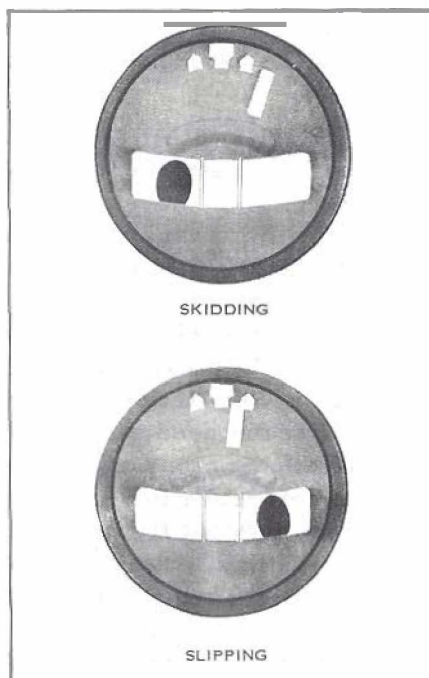

Figure 2: Unco-ordinated Turns
(3) It is possible to go into a turn by using rudder pressure alone, but rather than executing a properly co-ordinated turn, the aircraft skids in the horizontal plane. Similarly, owing to aileron drag, the use of aileron alone causes the aircraft to slip. This means that the ball must be included in your cross-check throughout any turn. Figure 2 opposite shows what happens to the needle and ball when the controls are mishandled in a turn.
(5) The roll-out is done in the same way as for a normal recovery. Any small corrections that have to be made must NEVER have a larger angle of bank than the number of degrees of heading error that you wish to correct. During these turns the normal cross-check is used but, as you near the desired heading, you must refer to the directional indicator more often to determine when to start the roll-out.